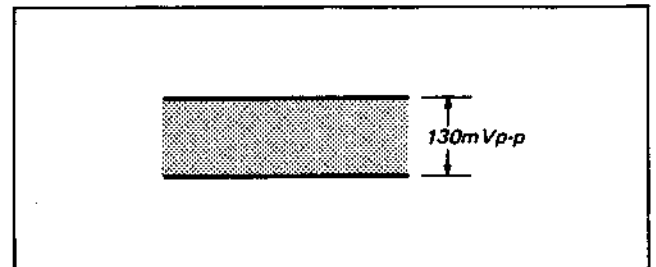

Fig. 4-4-27. Record current frequency characteristic adjustment
- (3) Adjust RV6 for a signal level of 130 mVp-p . (See Fig. 4-4-27.)